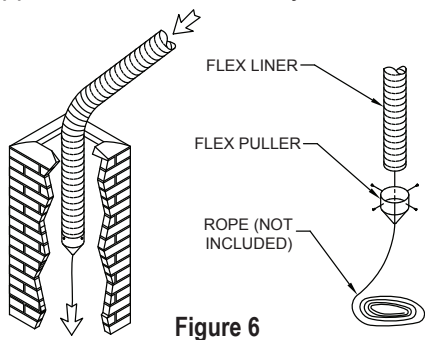

Figure 6
Liner (**Figure 6**). One person should feed the Liner through the chimney, and the other person should pull the Liner from the bottom, using the rope to guide the Liner through to the chimney bottom.
Step 3. Secure a rope to the Flex Puller and attach the Flex Puller to the DuraFlex Liner. One person should feed the liner through the chimney from the top, while another should pull the liner from the bottom (**Figure 6**).